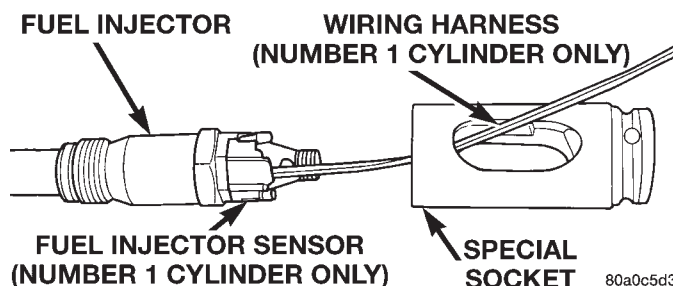

Fig. 44 Wiring Harness Through Socket
(5) Remove the injector using special socket tool number VM.1012A. When removing cylinder number one injector, thread the wiring harness through the access hole on the special socket (Fig. 44).